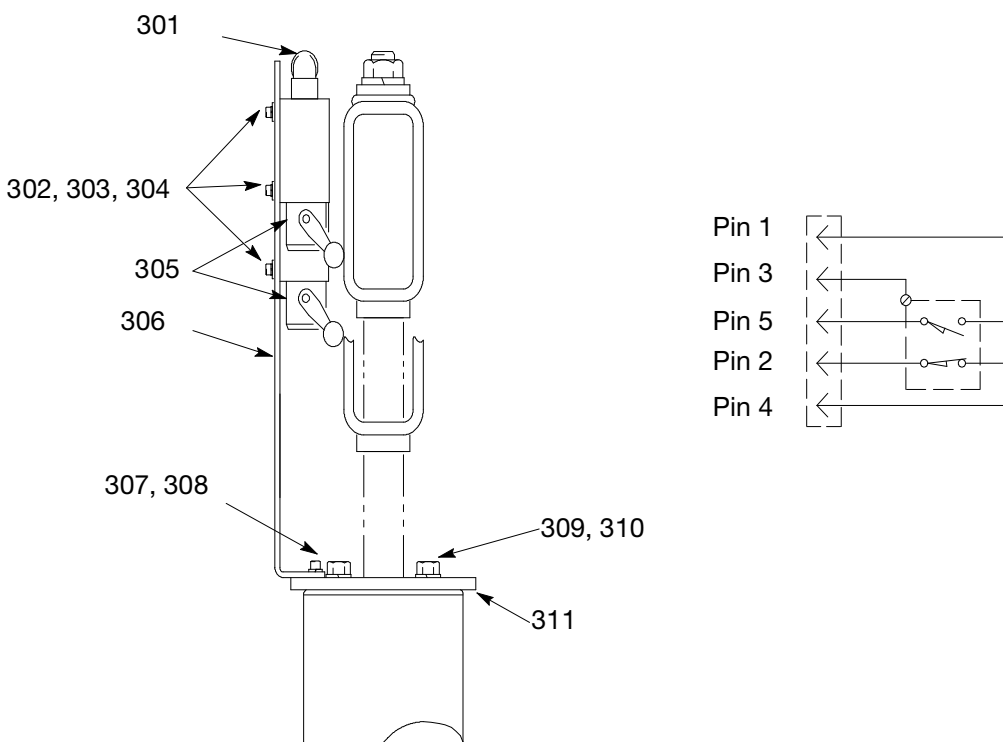

FIG. 26
3. Between the two limit switches (305), locate the faulty switch. See FIG. 26.
4. Disconnect the wiring (301) for the limit switch at its power source. For reference, use the wiring diagram shown in FIG. 26.
6. Measure the distance from the mounting bracket (306) to the outer diameter of the limit switch roller (305) to ensure that the new roller is installed in the same position.
7. Remove three cap screws (302), the lock washers (303), the plain washers (304), and the limit switch (305) from the limit bracket (306). See FIG. 26.
8. Install the new limit switch (305) on the limit bracket (306) using the three cap screws (302), lock washers (303), and plain washers (304). See FIG. 26.
9. Reconnect the wiring (301) for the limit switch at its power source. For reference, use the wiring diagram shown in FIG. 26.
10. Make sure that the limit switch roller is positioned in the same location per the measurement in step 6. See FIG. 26.
11. Reinstall the cover on the Junction Box Panel (H).
12. Reapply power to the Junction Box Panel (H).